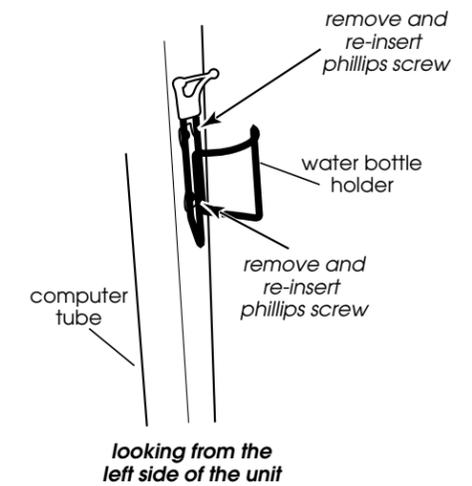

Figure 10 - Install Water Bottle Holder
- Plug AC Adapter into receptacle located in the Main Frame near the Front Foot Tube, see Figure 10.